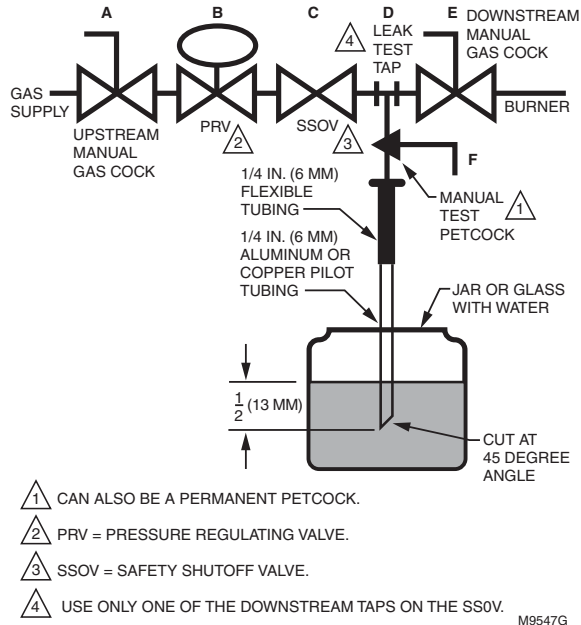

Fig. 4. Valve leak test.
Instructions for testing tightness of closure of gas safety shutoff valves on burner startup (by qualified personnel). See Fig. 4.
1. De-energize the control system to make sure no power is applied to the safety shutoff valve (C).
2. Close the upstream manual gas cock (A).
3. Make sure the manual test petcock (F) in the leak test tap assembly (D) is closed.
4. Remove the leak test tap plug and connect the test apparatus to the leak test tap (D) as shown in Fig. 4.
5. Close the downstream manual gas cock (E).
6. Open the upstream manual gas cock (A).
7. Program the safety shutoff valve (C) to the fully open position (through the safety system), then immediately de-energize the SSOV to seat the valve operationally.
8. Immerse a 1/4-inch (6 mm) tube vertically 1/2 inch (13 mm) into a jar of water as shown in Fig. 4.
9. Slowly open the test petcock (F).